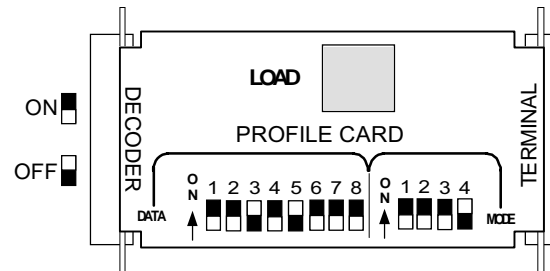

Figure A-3 Profile Card Default Setting
3. Set all four "MODE" switches to OFF and set number 3 "DATA" switch to ON (as shown in figure A-3).